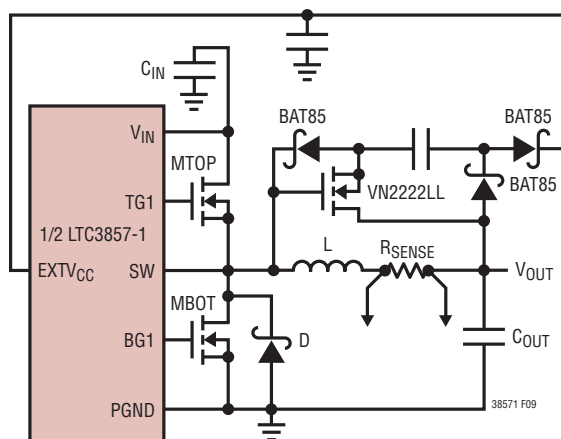

Figure 9. Capacitive Charge Pump for  $EXTV_{CC}$
4.  $EXTV_{CC}$  Connected to an Output-Derived Boost Network. For 3.3V and other low voltage regulators, efficiency gains can still be realized by connecting  $EXTV_{CC}$  to an output-derived voltage that has been boosted to greater than 4.7V. This can be done with the capacitive charge pump shown in Figure 9. Ensure that  $EXTV_{CC} < V_{IN}$ .